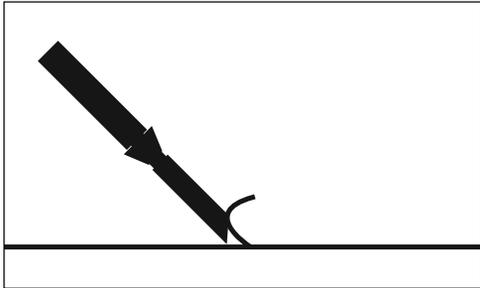
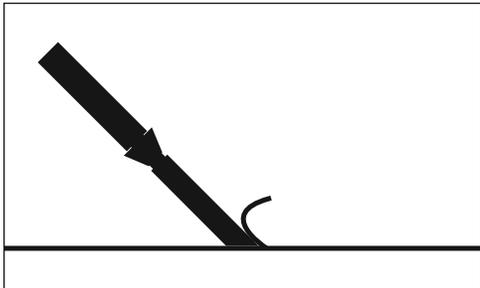

FIG. 7
FIG. 7.1
- Normally, bevel up is for concrete (Figure 7); bevel down is for wood or softer substrates, e.g. Gypcrete (Figure 7.1).